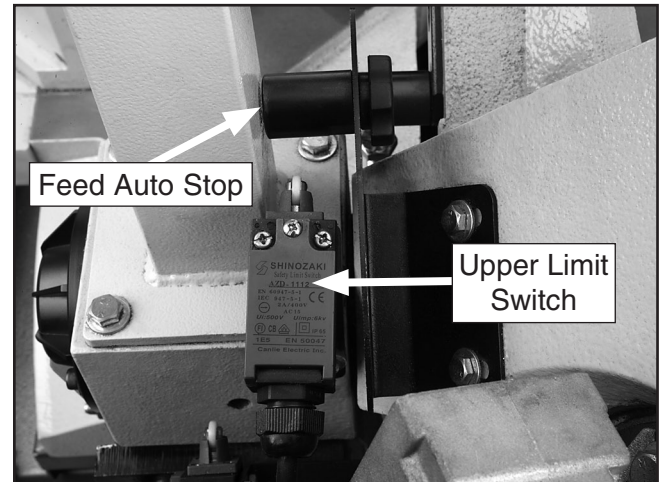

Figure 64. Feed auto stop.
3. Loosen the auto stop knob, adjust the position of the auto stop so it depresses the upper limit switch button, then re-tighten the auto stop knob. The saw bow will now automatically stop when raised to this level (**Figure 64**).